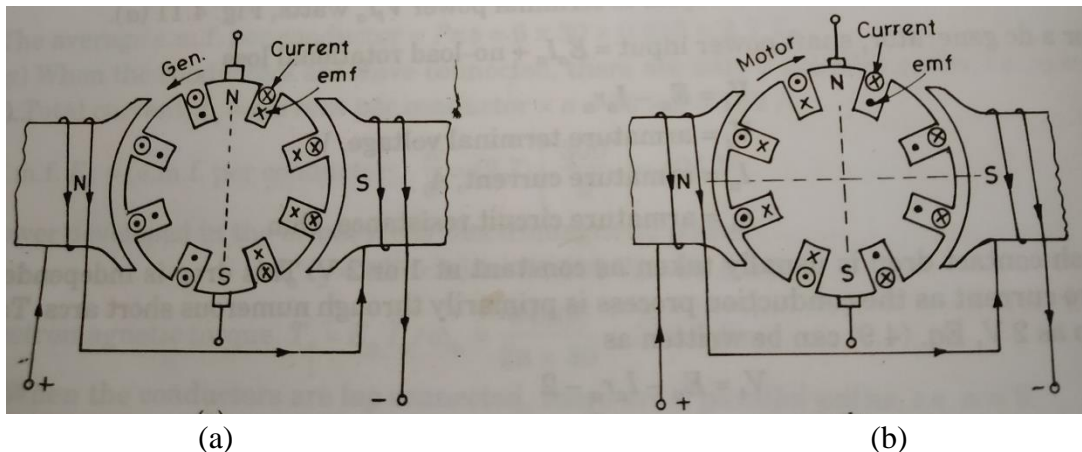

Fig. 2.1 DC Machine (a) Generating action and (b) Motoring action
- The working principle of a DC Motor is explained with the help of fig. 2.1(b).
- The armature conductors under the influence of N pole carry current upwards indicated by dot sign and the armature conductors under the influence of S pole carry current downwards indicated by cross sign as shown in the fig. 2.1 (b). These currents establish a magnetic field in the armature and the N and S poles of this magnetic field are indicated in fig. 2.1 (b).
- The N and S poles of the armature magnetic field interacts with the N and S poles of the magnetic field produced by the field poles thereby causing the armature to rotate in clockwise direction as shown in the fig. 2.1 (b). The direction of rotation of the armature can also be verified by applying Fleming's left-hand rule.
- Fig. 2.1 (a) explains the generating action of a DC machine and in this fig., for anticlockwise rotation of armature, it is found by applying Fleming's right hand rule that generated emfs in armature conductors under N pole have dot signs and generated
- For the given anticlockwise rotation of armature, N and S poles in armature must be created by the armature currents as shown in the fig. 2.1 (a) to provide the necessary opposition against the mechanical input for energy conversion. This magnetic polarity demands the current directions in the armature conductors to be indicated by dots under N pole and by crosses under S pole and these current directions in the armature slots are shown by crosses and dots within the circles of fig. 2.1 (a).
- Fig. 2.1 (b) explains the motoring action of a DC machine and in this fig., for anticlockwise rotation of armature, the direction of current in the armature conductors is indicated by crosses and dots within the circles in the armature slots.